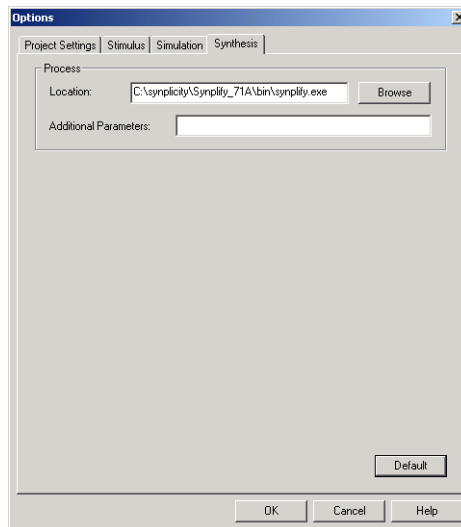

Figure 3-9. Synthesis Options Dialog Box
1. **From the *Tools* menu, click *Options* and then the *Synthesis* tab.** The Synthesis options dialog box appears, as shown in Figure 3-9